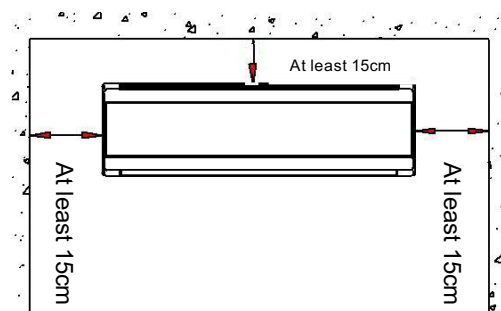

Fig 1
- Ensure the distance as required in Fig.1.
- The back of the indoor unit should be close to the wall(Fig.1)